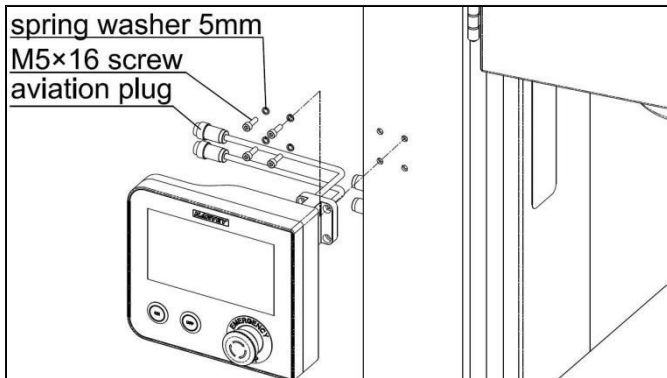

Fig. 7-1
1. As shown in Fig. 7-1, mount the Display Assembly onto the machine column using four M5×16 socket head screws then tighten these screws to secure the screen in place.